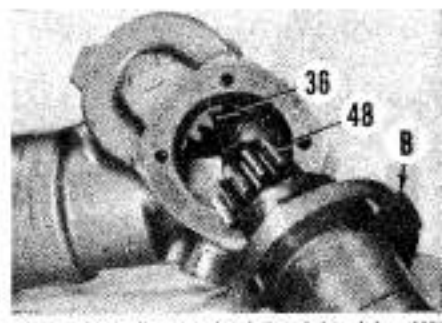

Fig. 17—The first tooth of the right pinion (48) should be meshed with first valley of left pinion (36). Identification boss is shown at (B).
Turn the installed steering shaft (31) until the rack (32) is at bottom of travel, position the steering gear housing (34) as normally installed on the tractor and install the left pitman shaft and housing assembly. The flat identification boss on left housing should be down when installed. The marked third tooth on left pinion should be aligned with the center valley of the rack as shown in Fig. 16. Install retaining screws, then turn steering shaft until rack (32) is all the way up in housing. Align the first tooth on right pinion (48—Fig. 17) with first valley on left pinion (36) as shown. The identification boss (B) on right housing should be toward front as installed on tractor. After correct alignment is obtained, the right side pinion housing can be temporarily removed (while maintaining correct alignment) and housing filled through opening to capacity with Massey-Ferguson Permtran Oil or equivalent. Install the right pinion housing and right pitman shaft after filling with oil.